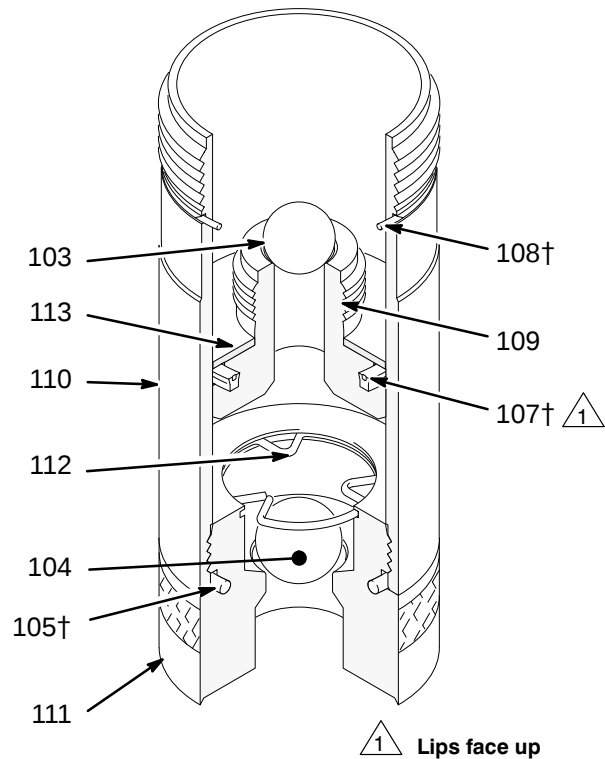

Fig. 1
Intake Valve. See Fig 1.
Displacement Pump. See Fig 1.
1. Install the u-cup packing (107†) with the lips up, and place the piston washer (113) on the piston/valve seat (109).
- NOTE:** Make sure the lips of the u-cup packing (107†) face up. See Fig. 1.
2. Place the piston ball (103) in the piston rod.
3. Apply Loctite® to the threads of the piston/valve seat (109), and thread the assembly from Step 1 onto the piston rod.
4. Clamp the flats of the piston/valve seat (109) in a vice, and, using a crow's-foot wrench, torque the the piston rod to the piston valve seat to 40 to 60 ft-lb.
6. Use a strap wrench to screw the displacement pump cylinder (110) to the air motor base (28), and torque with a crow's-foot wrench to 95 to 105 ft-lb.